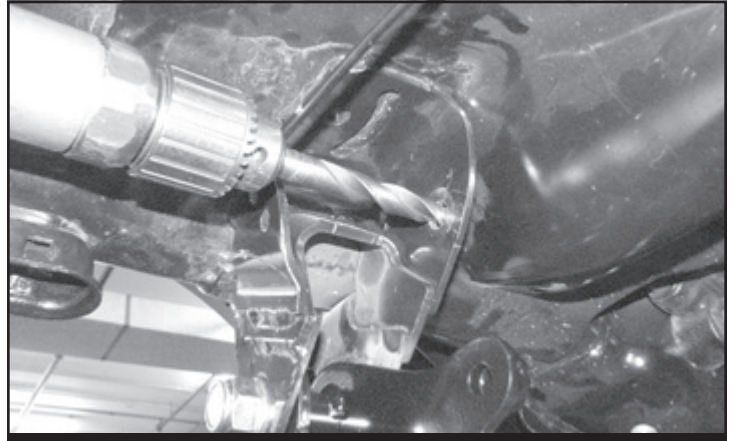

FIGURE 7 - STEP 17
17. Swing the bracket back out of the way. Using a 1/2" drill bit, drill out the marked hole. **SEE FIGURE 7**